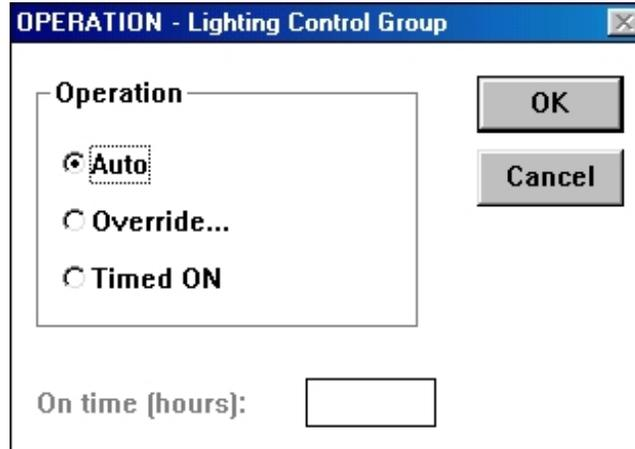

Figure 15: Operation - Lighting Control Group Dialog Box
1. On the Action menu, click Operation. The Operation-Lighting Control Group dialog box appears (Figure 15).
1. On the Action menu, click Operation. The Operation - Lighting Control Group dialog box appears (Figure 15).